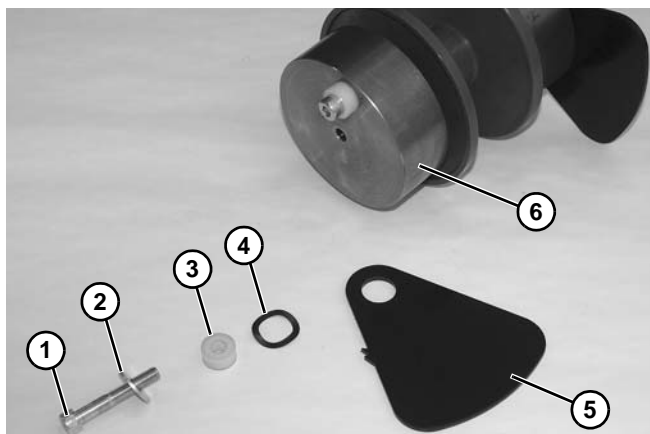

Figure 152
7. Remove bolt (Figure 152, item 1), washer (Figure 152, item 2), spacer (Figure 152, item 3), wave washer (Figure 152, item 4), and plate (Figure 152, item 5) from end of idler assembly (Figure 152, item 6).